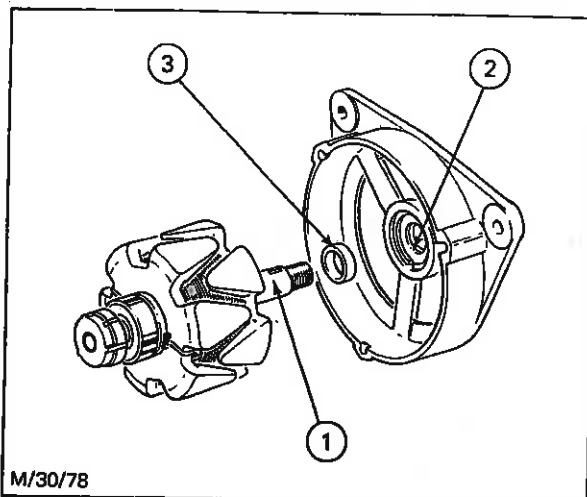

Fig. 20 - Removing Rotor
4. Press rotor shaft (1) from drive end bearing (2) using a bench press. Detach and retain spacing collar (3) - see Fig. 20.